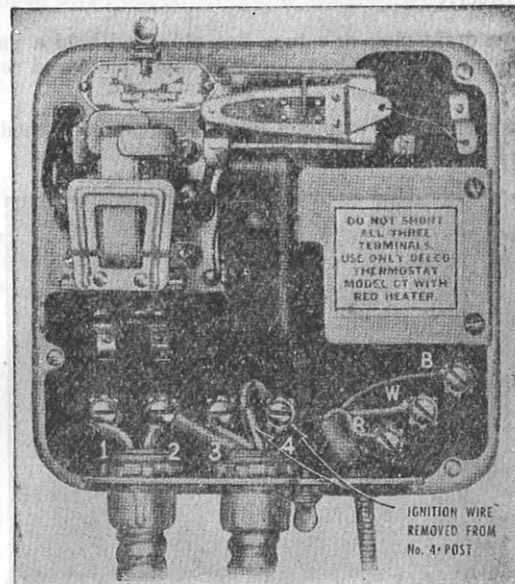

FIG. 7.—Ignition wire removed from primary control.
- b. Place the loose end so that it does not contact anything. (See fig. 7.) This cuts off the spark circuit. *Note:* On many of the Model A burners, the electrode leads can be disconnected at the transformer. This also cuts off the spark.